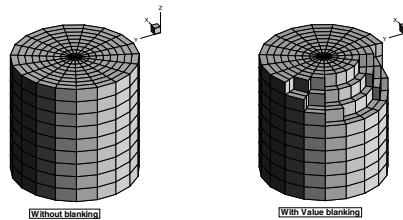

Figure 20-3. Examples of plots where Surfaces to Plot has been set to Exposed Cell Faces with (left) and without (right) value-blanking.
- Exposed Cell Faces (Default):** This setting is similar to the Boundary Cell Faces setting, save for cases in which value blanking is turned on. When value blanking is used the outer surfaces are drawn, similar to results from the Boundary Cell Faces setting. In addition, the cells faces between blanked and non-blanked cells are drawn. Figure 20-3 shows a plot of a volume zone with Surfaces to Plot set to Exposed Cell Faces with and without value blanking.